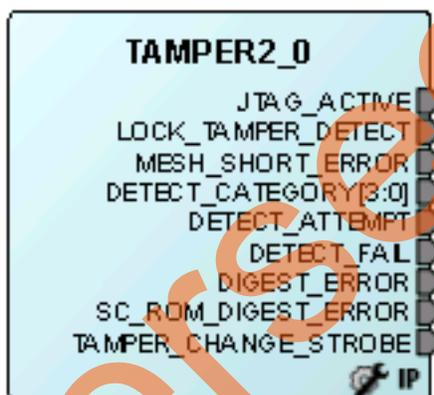

Figure 24 • Tamper Macro
- a. Drag-and-drop the **Tamper Macro** available in **Libero Catalog** to the **Dev_Restart_after_ISP_blk SmartDesign** canvas., as shown in Figure 24.